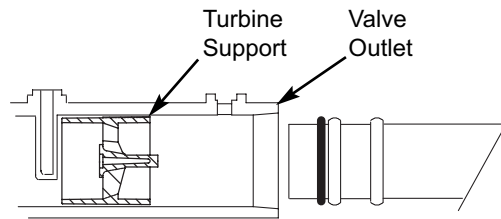

FIG. 9
- d. Be sure the turbine support is in place in the valve outlet, as shown in Figure 9.